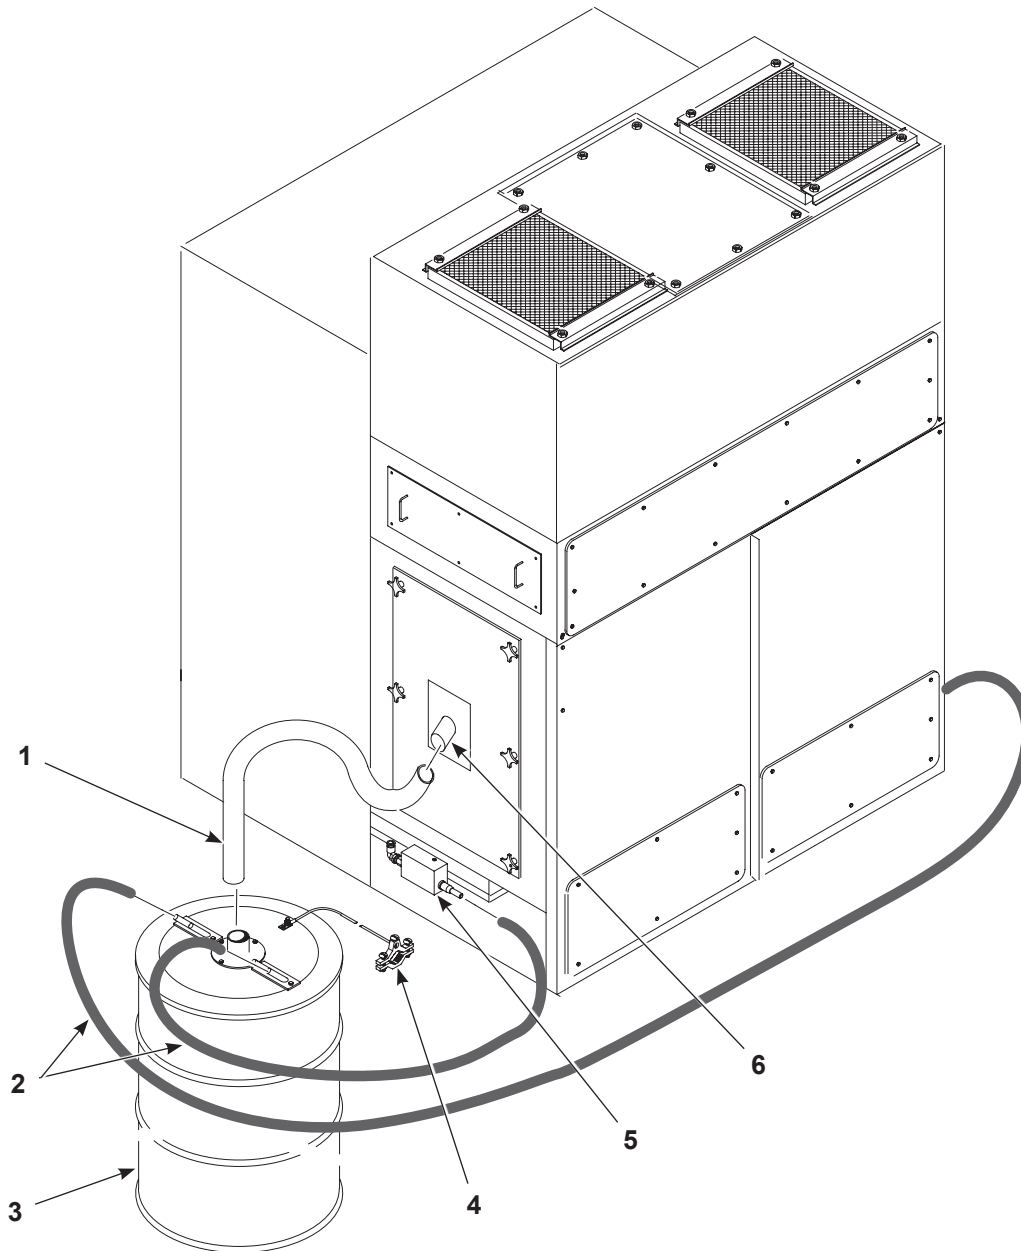

Figure 6-1 Emptying the Waste Hopper
1. See Figure 6-1. Secure the waste lid to an empty 55-gallon drum (3).
2. Connect the ground clamp (4) to a true earth ground.
3. Attach a 3/4-in. transfer hose (2) between the transfer pumps (5) and the waste lid. Use hose clamps on both ends of the transfer hose.